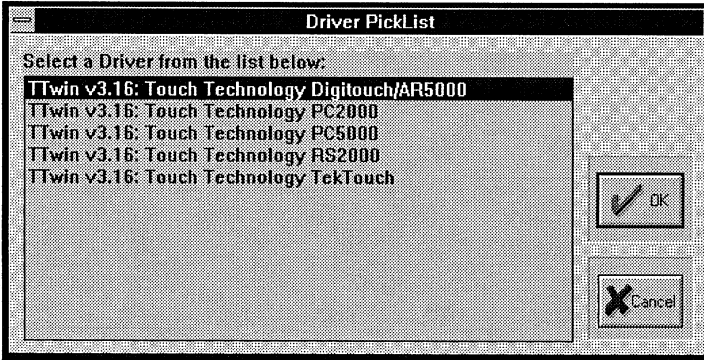

fig. A-4
- When the Driver PickList screen appears (fig. A-4), select **TTwin v3.16: Touch Technology Digitouch/AR5000** and click OK.